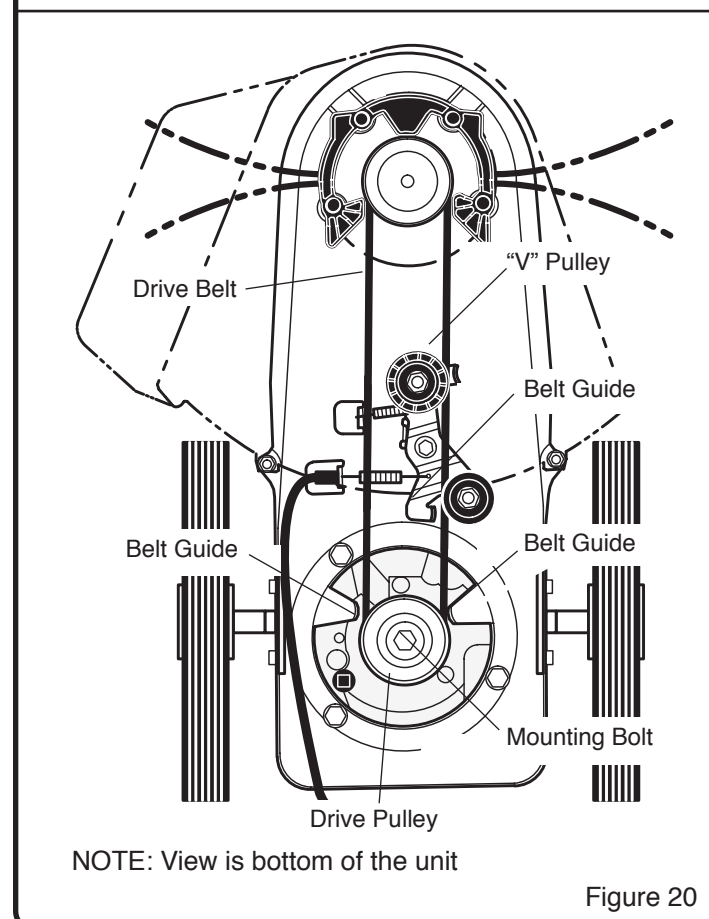

Figure 20
4. Remove the "V" Pulley from the idler bracket. (See Figure 20)
5. Raise the front of the trimmer housing and remove the drive belt. Do not bend the belt guides. (See Figure 20)
8. Check the routing of the drive belt. Make sure the drive belt is inside of all belt guides and that the belt is not twisted. (See Figure 20)